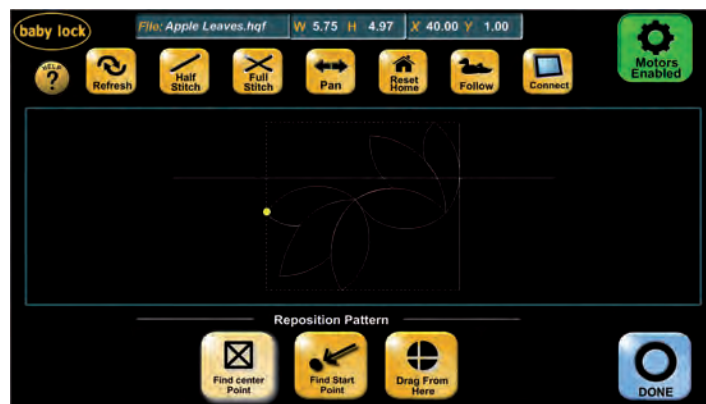

Figure 32
From the “Quilt” menu screen, select the “Reposition Pattern” button. This will bring up the “Reposition Pattern” screen (Figure 32).
1. The “Find Center Point” button will position the pattern so that the center of the pattern is aligned with the current needle position. If there is a point on the quilt that should be the center of the pattern, simply move the quilting machine so the needle is at that center point and press the “Find Center Point” button on the screen (Figure 32).